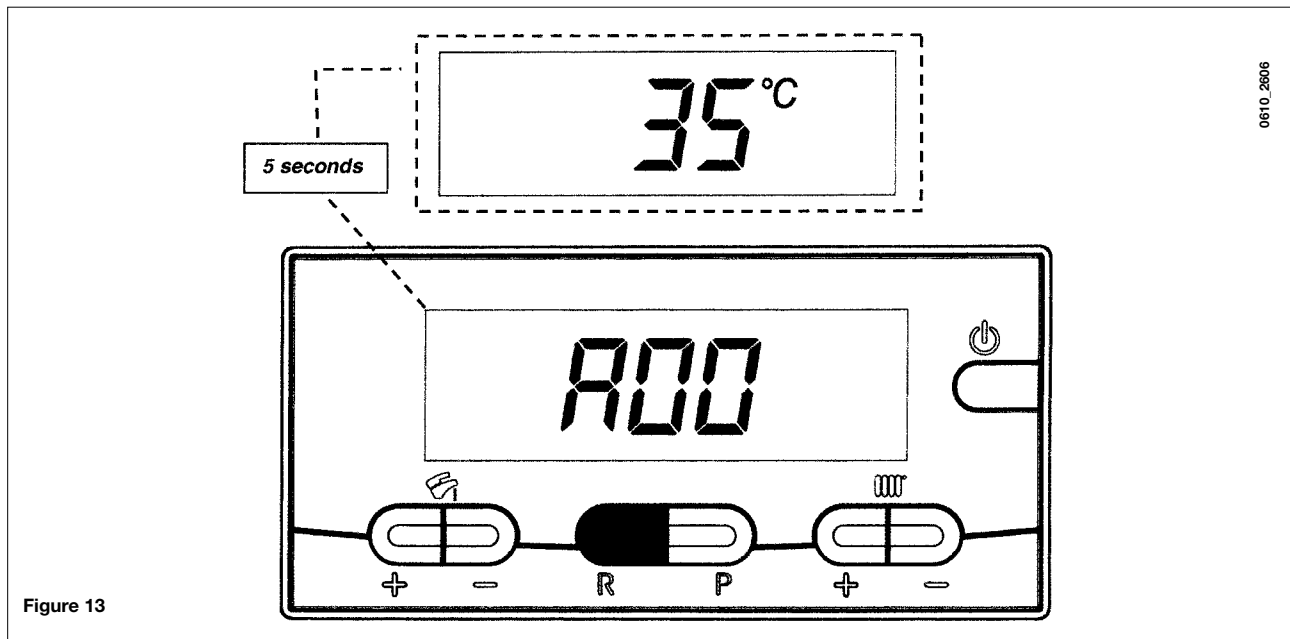

Figure 13
- Press the  button for at least 6 seconds until the display shows "A00" (... "A07") alternating with the respective value (e.g. figure 13);